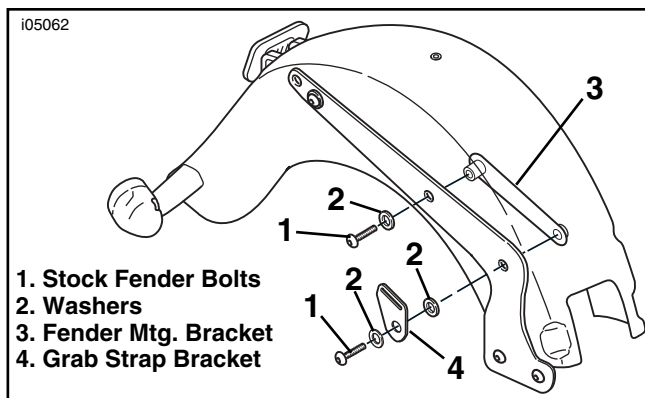

Figure 13. Fender Hardware Removal (Right Side), 2003 and Later FLSTC and FLSTF
- Apply 1-2 drops of Loctite® 242 (blue) to the threads of the bolt. Position the fender mounting bracket (5) removed in Step 1 to the underside of the fender. Loosely install the bolt through the fender into the threaded spacer on the bracket. Do not tighten at this time.
- Assemble a 2-1/4" (57 mm) hex-head bolt (6), supplied in the kit, through the retaining ring (7), grab strap bracket (8) and bushing (9) removed in Step 1. Insert the bolt into the front mounting hole of the saddlebag support.
- Place a thin washer (1) from the kit onto the exposed threads of the bolt. Apply 1-2 drops of Loctite® 242 (blue) to the threads of the bolt. Insert the bolt through the fender support and fender, and into the threaded nut on the fender mounting bracket (3).
- See Figure 13. Remove the two forward rear-fender bolts (1), washers (2), fender mounting bracket (3) and grab strap bracket (4) on the right side of the vehicle. Discard the bolts, but save all remaining hardware for re-use.